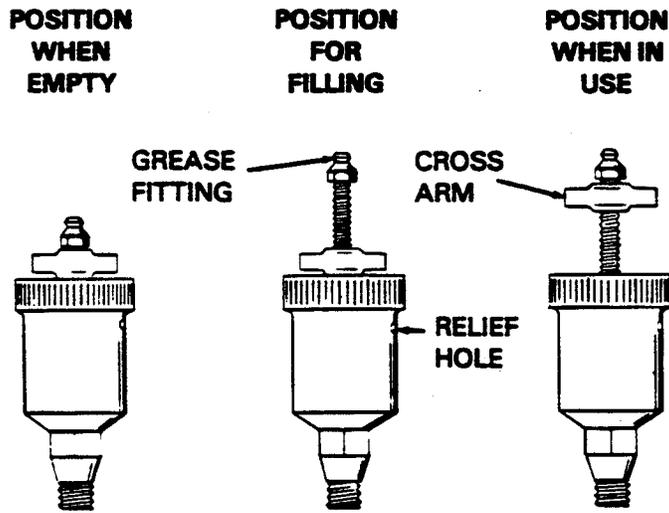

Figure 3. Automatic Lubricating Grease Cup
Before removing the seal assembly, turn the cross arm on the seal grease cup (30) clockwise until it rests against the cover (see figure 3). This will prevent the grease in the cup from escaping after the seal is removed.
Before starting the pump, fill the grease cup through the grease fitting with a good grade of No.2 pressure gun grease until grease escapes from the relief hole. Turn the grease cup arm counterclockwise until it is at the top of the stem; this will release the spring to apply grease to the seal (see figure 3).